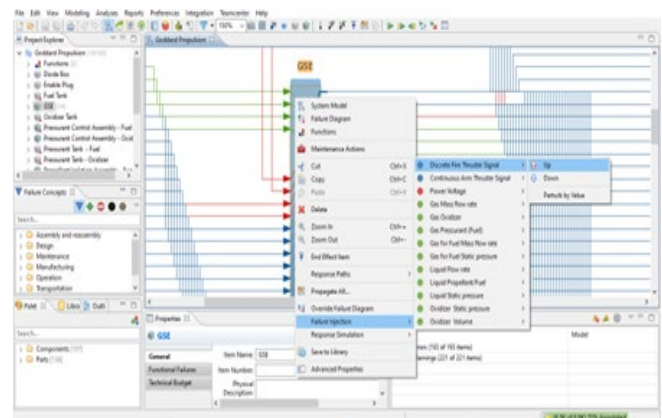

Figure B63: Failure Injection Configuration
- 1) To build an FTA, enable the *Safety and Risk Assessment module* by clicking that module’s button (Figure B63); otherwise, the *Fault Tree Builder* will not be accessible.